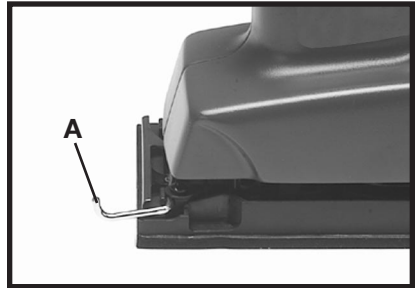
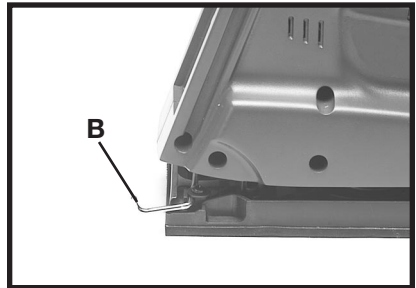

Fig. 5
Fig. 6
2. Rotate pad clamp levers (A) Fig. 5, and (B) Fig. 6, to the left.